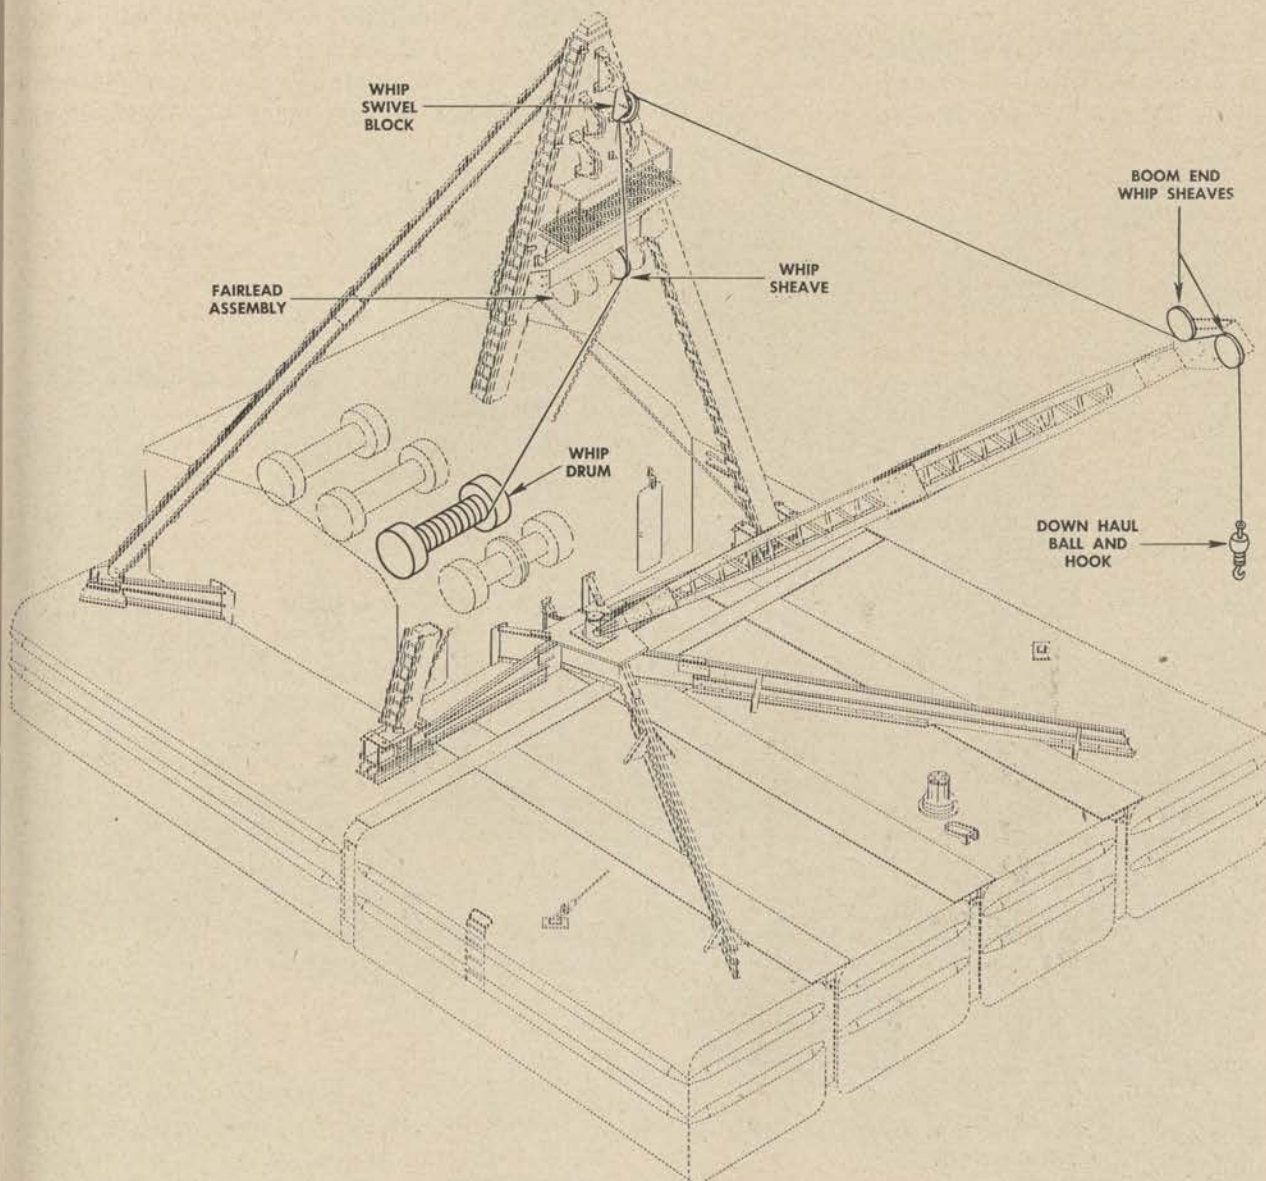

Figure 138. Reeving of whip cable.
(5) Pass the end of the cable around the load block, starting with the left sheave, around the left sheave of the load block hanger, thence back and forth until the three sheaves have been reeved.
(6) Anchor the loose end of the cable to the anchor pin of the lower load block, by splicing.
h. REEVING WHIP LINE. (1) Unreel the cable for the whip line onto the whip drum of the hoist. Note that the whip cable is reeled onto the drum in a direction opposite the foregoing three cables; that is, the end of the cable must lead off from the front of the drum, as shown in figure 138. Be sure to clamp the cable securely to the drum flange.
(2) Pass the cable end out through the opening in the deck-house roof and around the left sheave and left swivel block of the A-frame. (See fig. 138.)
(3) From the left swivel block on the A-frame, bring the end of the whip cable under and around the sheave at the aft of the boom tip, and thence around the forward 20-inch sheave, as shown in figure 138.
(4) Secure the downhaul ball and hook by means of clamps.